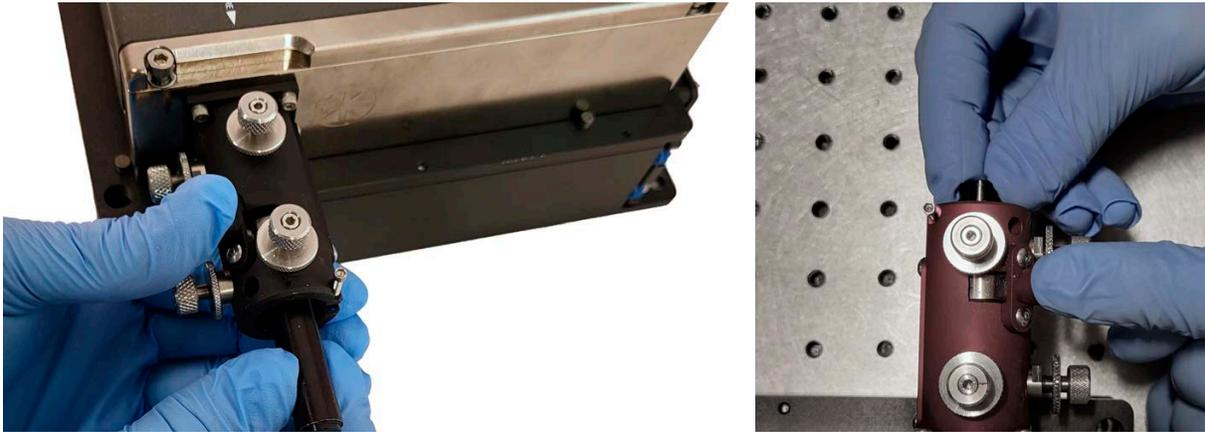

Figure 8-35. Remove/Install Lock Button and Tool Partially Inserted
3. Note the location of the install/release button. Refer to Figure 8-35.
with the pinhole, on the input (closest to laser) side of the launcher first. Refer to Figure 8-35.
- e.) Push and hold the fiber release/hold button (refer to Refer to reference Figure 8-35), and remove the tube.